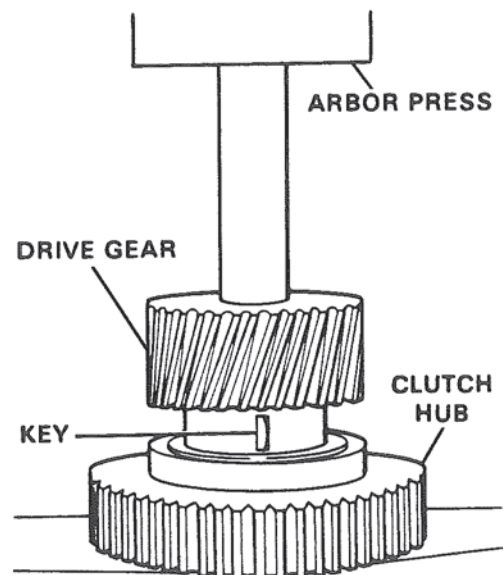

Figure 60. Pressing Drive Gear into Forward Clutch Hub.
1. Place the forward clutch hub on a suitable support placed on an arbor press in the position shown in Figure 60.
4. Install the drive gear and woodruff key squarely into the forward clutch hub, being careful to align the woodruff key with the mating keyway in the forward clutch hub. Figure 60. Press the drive gear into the forward clutch hub until the gear "bottoms" on the face of the forward clutch hub and the groove for the snap ring is fully uncovered.